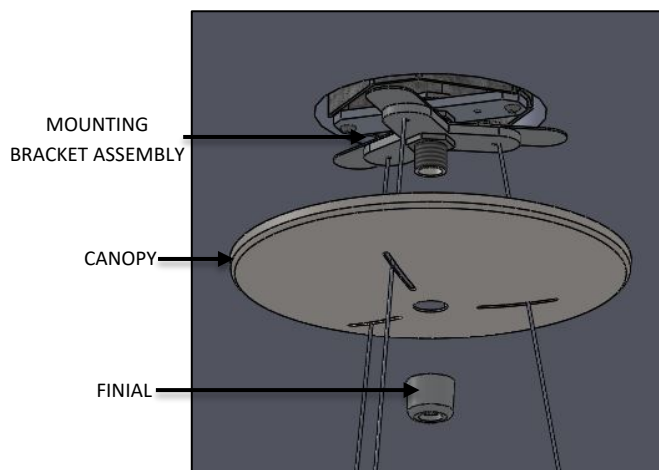

FIG. 15 – CANOPY DISASSEMBLY
6. Once the CRIQUE ASSEMBLY is secured to the AIRCRAFT CABLE (3) at the GRIPLOCK (3) Unthread the FINIAL from the MOUNTING BRACKET ASSEMBLY and lower the CANOPY as shown below in FIG. 15.